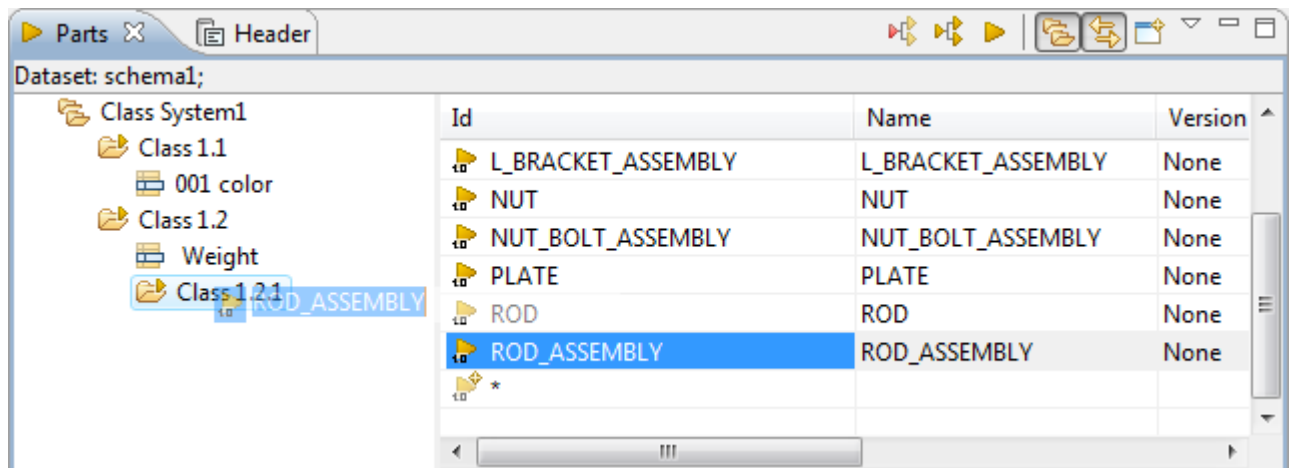

Figure 1. Part 'rod_assembly' dragged into 'Class 1.2.1' classification
- Drag the selected  part version from a table list into the destination  classification. When dragging the  part version into the tree, the  classification that the  part version is being dropped into will be selected, also the transparent part icon with an identifier are visible (see Figure 1). Release the mouse button after you reached the destination classification node.